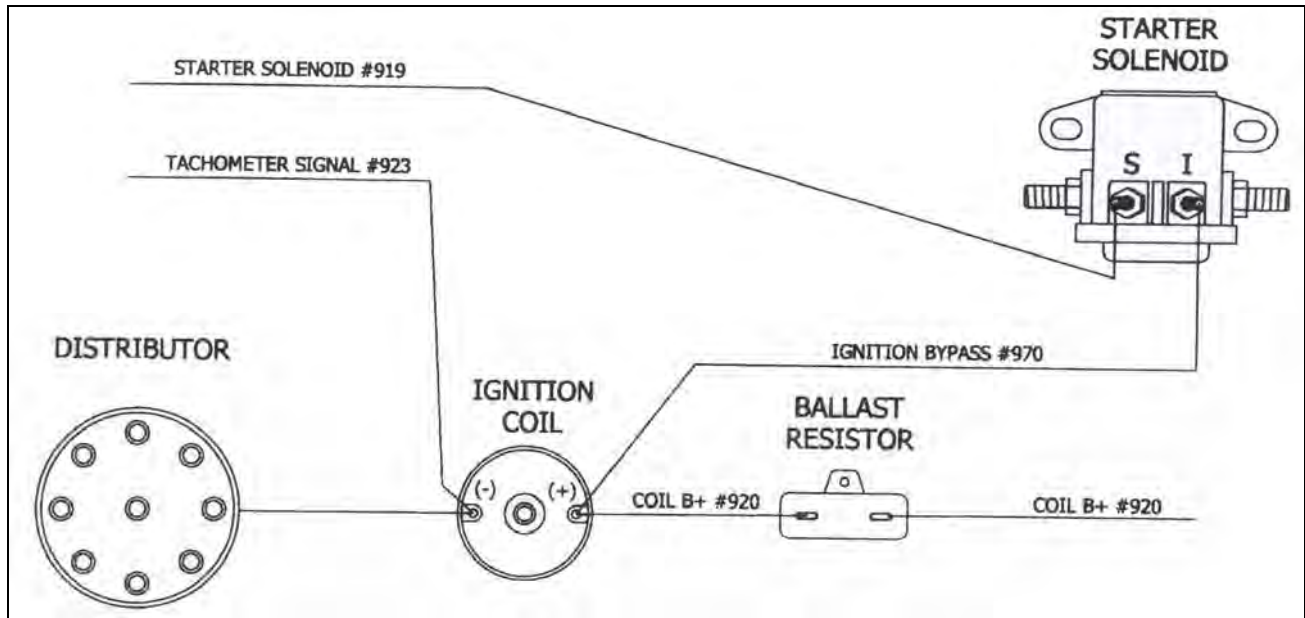

Figure 7-5 Points Type Ignition Diagram
- 7.1.9 Connect HEADLIGHT SECTION wire #919 to the "S" terminal on the starter solenoid. **See Figure 7-5**
- 7.1.10 If you are using a Ballast Resistor, connect HEAD LIGHT SECTION wire #970 (BRN) to the "I" terminal on the starter solenoid. **See Figure 7-5, also See 7.3.3**
7.3 Engine Section See Figure 7-5.
- 7.3.3** ENGINE SECTION wire #970 (BRN) is used both on a point's type ignition system and a Duraspark II System. It is to be connected directly to the positive post on the ignition coil or the coil feed side on the ballast resistor. The other end, located in the HEADLIGHT SECTION, is to be connected to the "I" terminal on the starter solenoid. See 7.1.8 also See Figure 7-5.